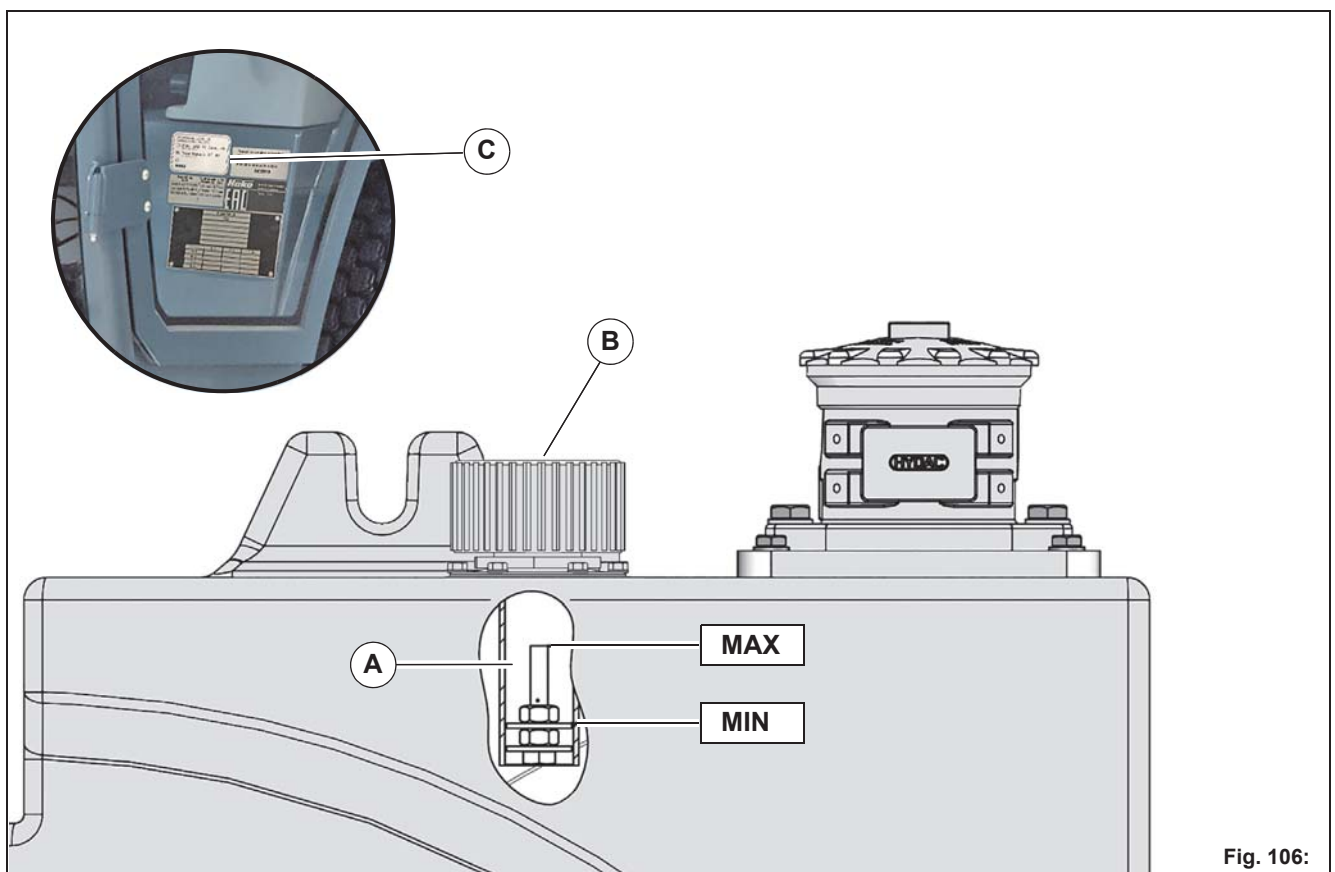

Fig. 106:
Check the hydraulic oil level weekly at the level indicator **Fig. 106-A** and top up as required. Use only hydraulic oils approved by the manufacturer (HVL P 46) e.g. Mobiloil DTE 10 Excel.
3. Unscrew the cap **Fig. 106-B** and top up with hydraulic oil.
The specification of the grade of hydraulic oil added in the factory can be found on an adhesive plate in the vehicle cab **Fig. 106-C**. Only use the identical hydraulic oil for topping up. Mixing different hydraulic oils is not permitted. This would reduce the efficiency and reliability of your machine. Hydraulic components could be damaged. If all of the hydraulic oil is replaced, the usual procedures must be noted (e.g. flush several times, maximum residual hydraulic oil content: 2 %). Note the name of the new hydraulic oil on the existing adhesive plate with a permanent marker. If the vehicle is used under different climatic conditions than when the initial filling took place (e.g. HVL P 46 for central European conditions), hydraulic oil with a different viscosity class must be used.